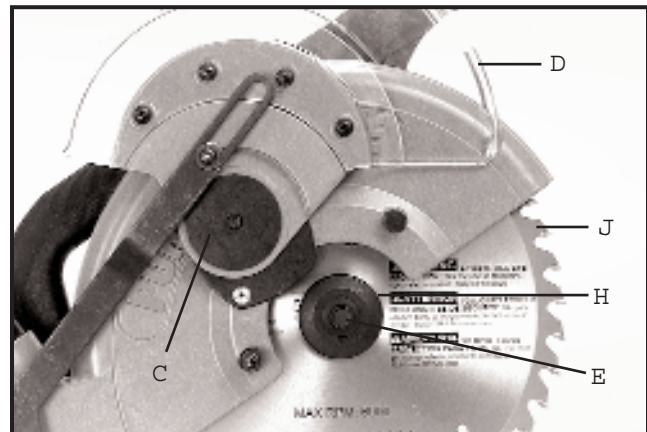
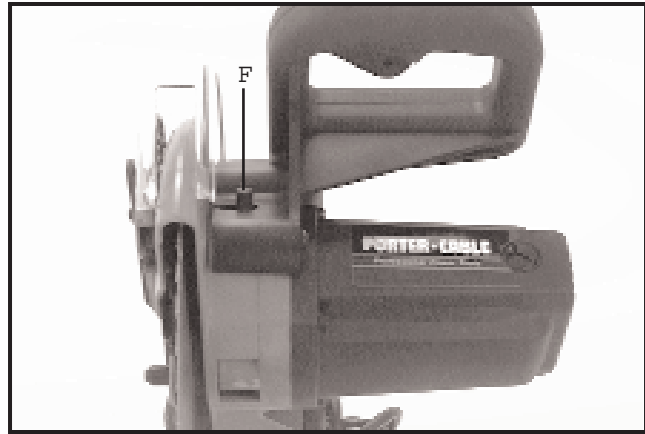

Fig. 52
Fig. 53
- Rotate arbor cover (C) Fig. 52, and lower guard (D) to the up position, as shown.
4. Remove arbor screw (E) Fig. 52, by turning screw (E) clockwise while at the same time pressing in on arbor lock (F) Fig. 53, to keep arbor from turning. Remove screw (E) Fig. 52, outside blade flange (H) and blade (J). DO NOT REMOVE INSIDE BLADE FLANGE.
7. Install new blade (J) Fig. 52, outside blade flange (H) and arbor screw (E). Turn arbor screw (E) counterclockwise to tighten while pressing in on arbor lock (F) Fig. 53, to keep arbor from turning. IMPORTANT: Make sure flats in outside blade flange (H) Fig. 52, are engaged with flats on arbor shaft and that teeth of saw blade (J) are pointing down at the front, as shown in Fig. 52.